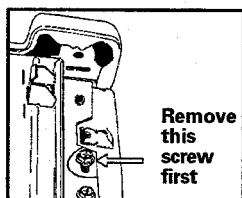

Figure 2-29
5. Remove four outer screws holding shroud and tumbler front assembly to the cabinet. **NOTE: Remove the lowest outside screw at each corner and then the top screw on each side. Leave the two inner screws and the two lower middle screws in place, see Figure 2-29.**